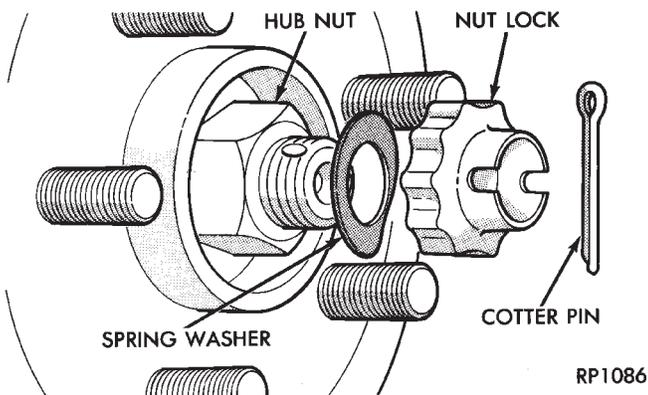

Fig. 3 Remove Cotter Pin, Nut Lock, & Spring Washer
(1) Remove cotter pin, lock and spring washer (Fig. 3).